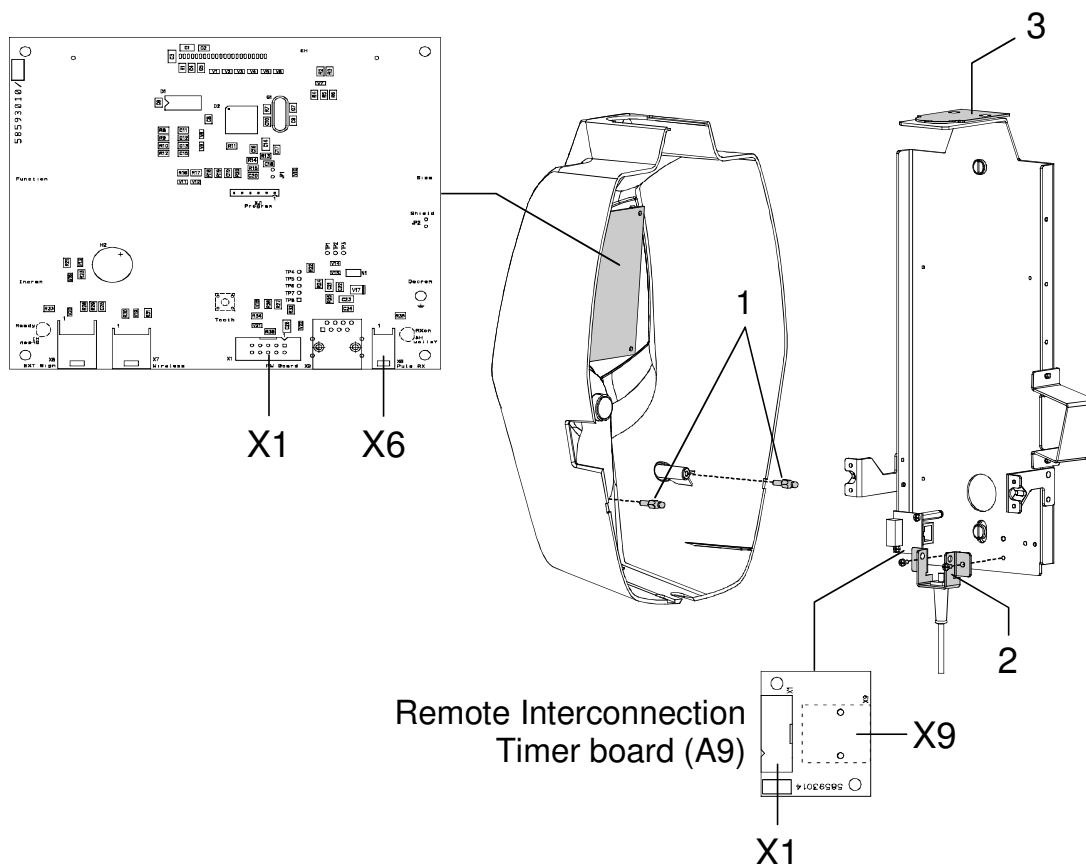

Figure 6-21
1. Assemble the X-ray button complete of its support (**2** - Figure 6-21) on the Remote Timer plate.
2. Connect the RJ 45 cable to the Remote Interconnection Timer board (A9) – connector X9 (Figure 6-21).
3. Assemble the two pins lock (**1** - Figure 6-21) on the Timer cover (**1** - Figure 6-1); these pins (code 2100511300) are included in the mounting hardware packaging.
5. Place the cover on the remote support taking care that the cover is positioned under the upper plate (**3** - Figure 6-21). Push the cover against the locking pins and tighten the two upper screws.